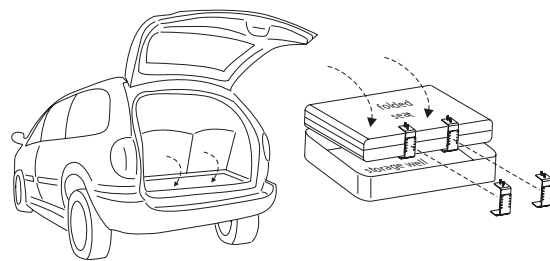

Figure 4-23
5. Position assembled parts around third row seat(s) then fold into well. **See Figure 4-23.**